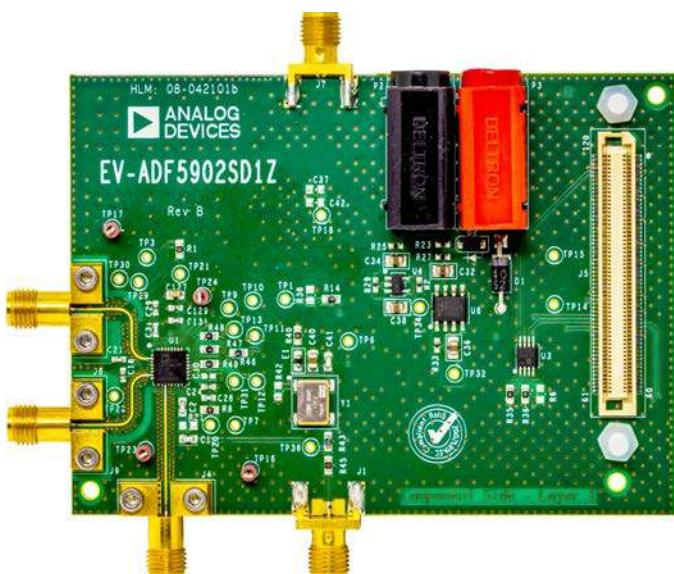

Figure 1.
The EV-ADF5902SD1Z evaluation board allows the user to evaluate the performance of the ADF5902 24 GHz voltage controlled oscillator (VCO) programmable gain amplifier (PGA) with a 2-channel power amplifier (PA) output and ramping phase-locked loop (PLL). Figure 1 shows the EV-ADF5902SD1Z evaluation board, which contains the ADF5902, three high frequency K type Subminiature Version A (SMA) connectors for the local oscillator (LO) output, two transceiver outputs, banana connectors for the power supply, and a connector for the serial interface.